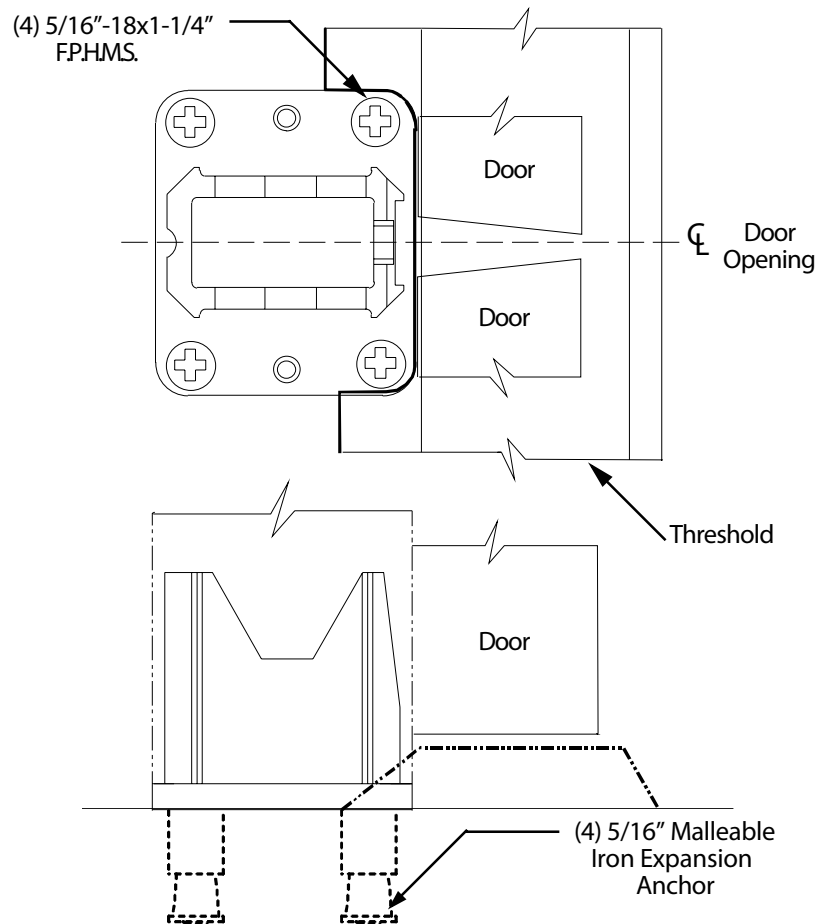

Figure 2
- 2 Line up and install bottom mullion fitting with center of door opening and flush with closed doors. If threshold is used, it must be cut to fit around the bottom fitting. See Figures 2 and 3